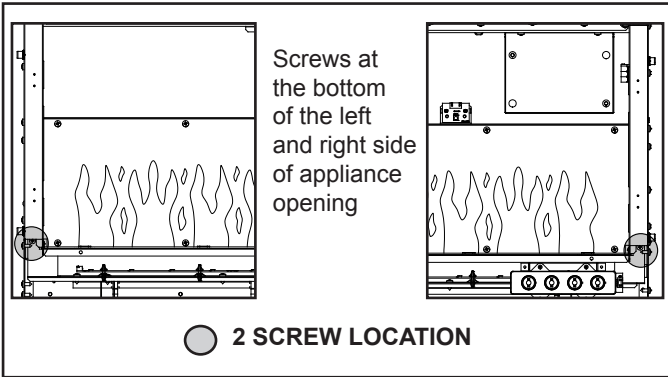

Figure 15. Screw Location
- Remove two (2) Phillips screws at the bottom of the left and right side of the appliance opening. See Figure 15.